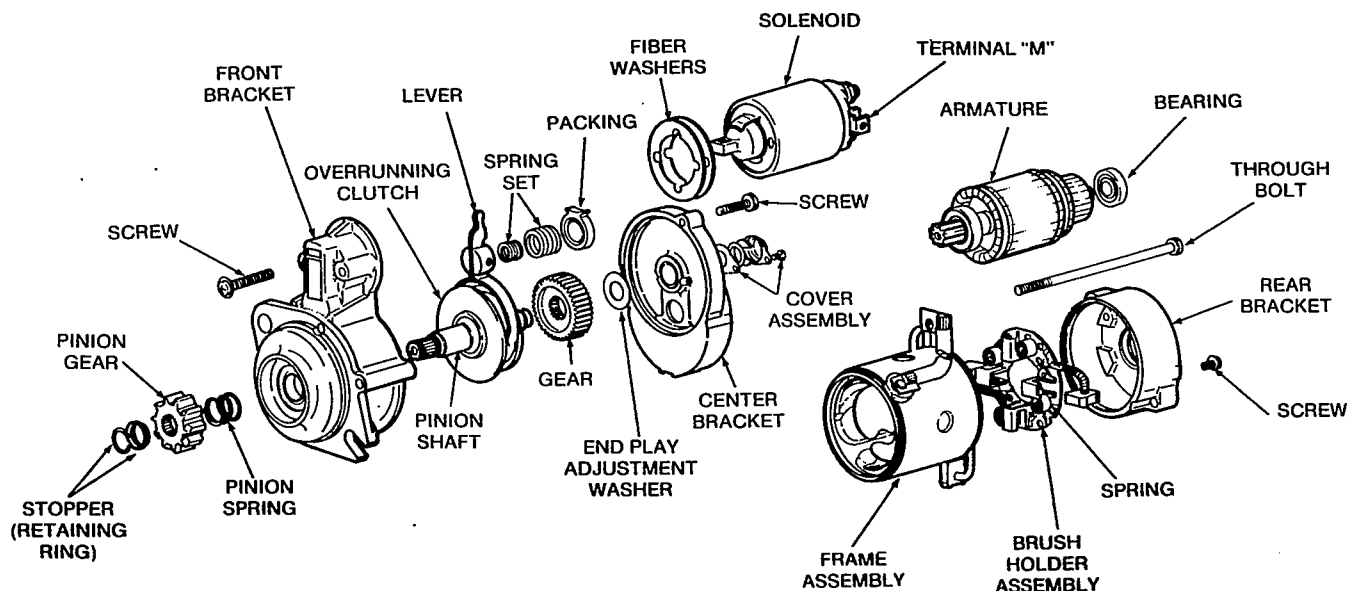

**FIGURE 49c. REMOVING CENTER BRACKET**
6. Remove capscrew that secures center bracket to front bracket. Remove the center bracket; several washers used to adjust pinion shaft end play can now be removed (Figure 49c).